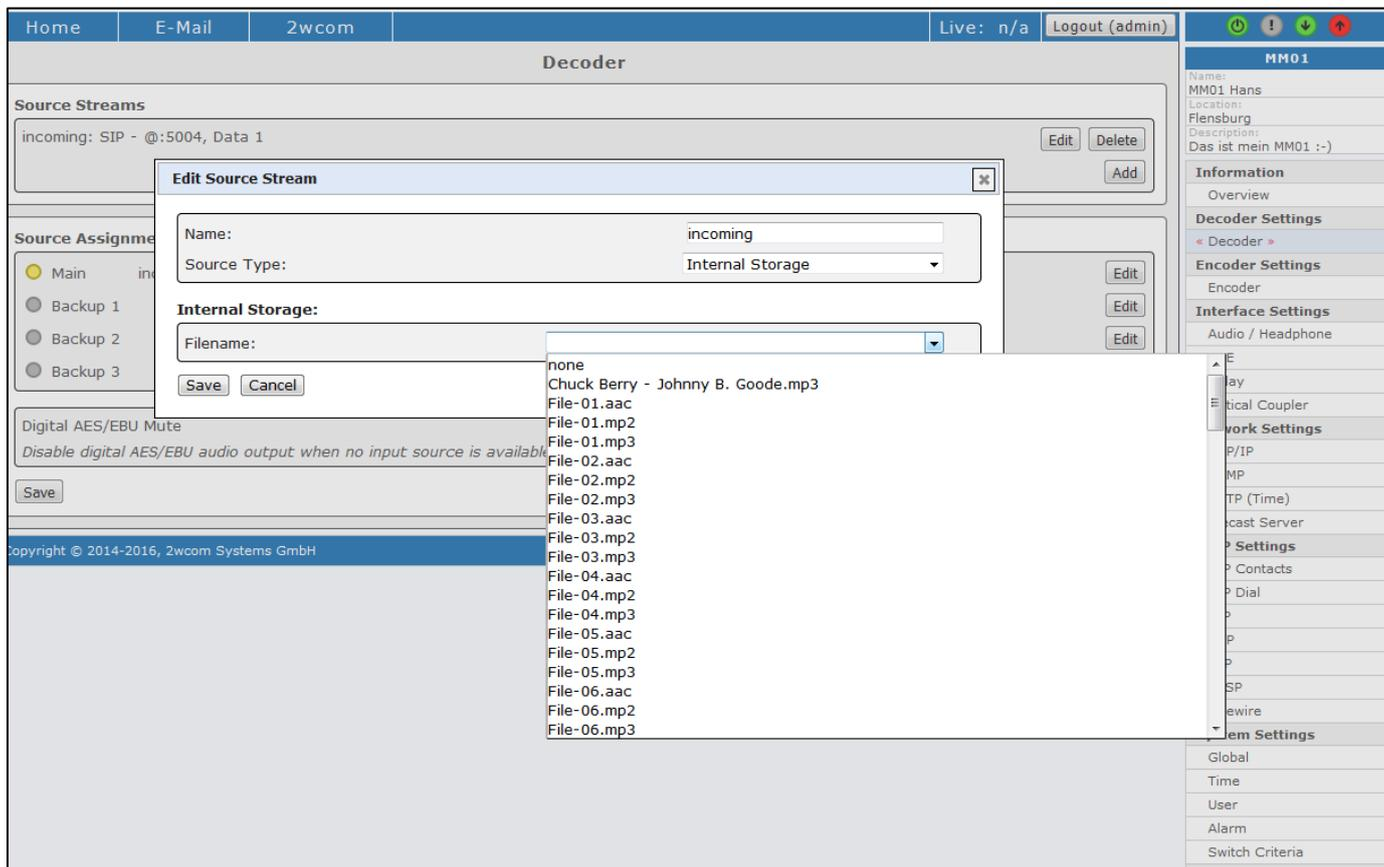

Figure 33: Edit Internal Storage as a Source for Decoding
3. Choose "Internal Storage" in the field **Source Type**. The menu will be extended to the block "Internal Storage" (see Figure 33).